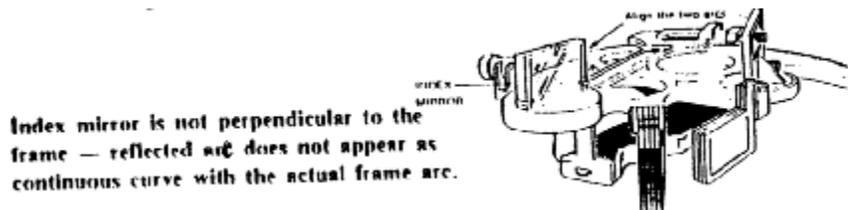

FIGURE 8-4 ADJUSTING THE SEXTANT - INDEX MIRROR (DAVIS MARK 3)
- a. INDEX MIRROR ADJUSTMENT - First, adjust the index mirror so that it is perpendicular to the frame by setting the Sextant to about 50 degrees. Hold the Sextant horizontal and about eight inches horizontally from the eye level and look with one eye into the index mirror. Move the Sextant until you can look past the index mirror and see the actual frame ARC as well as the reflected ARC. The two ARCs should appear as one continuous curve. If they do not, turn the adjustment screw on the back of the index mirror until the two ARCs come into alignment (refer to Figure 8-4).